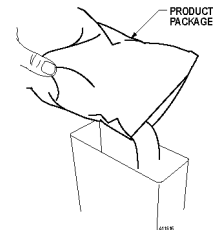

Figure 5f. Fill Canister
8. Slowly pour the product into the canister. **Figure 5f.**